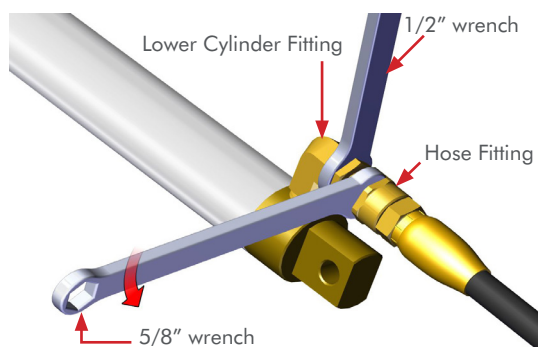

Figure 7
STEP 5 Repeat **Steps 3-4** for the **DOWN Hose**. **FIG 7**